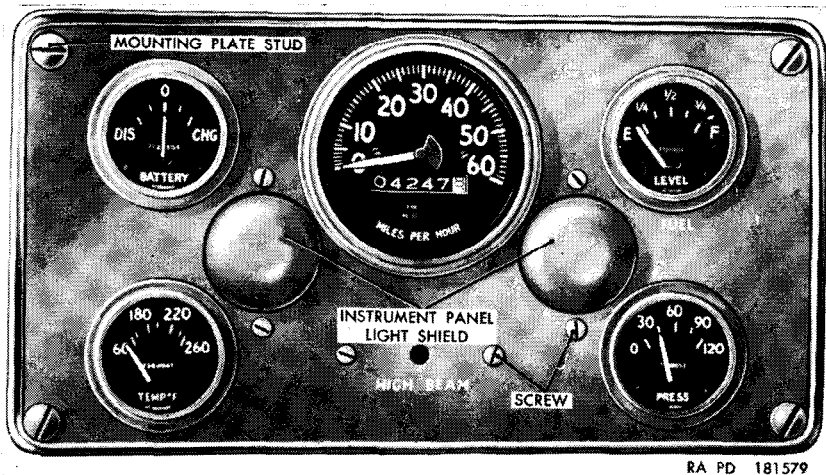

Figure 83. Instrument cluster—front view.
a. Instrument Cluster (fig. 83). The speedometer, ammeter, oil pressure gage, water temperature gage, fuel gage, two instrument panel lights, and headlight high beam indicator light are mounted in the instrument panel mounting plate located in the instrument panel. This assembly is referred to as the instrument cluster. The location and function of the various units in the instrument cluster are described in paragraphs 25, 26, 29, 30, 31, 39, and 40.
a. *Removal.* Disconnect the ground cable (par. 155c(2)). Turn each of the four instrument cluster mounting plate studs (fig. 83) one-half turn counterclockwise and pull instrument cluster free from instrument panel. Unscrew the nut securing the speedometer flexible shaft assembly to the speedometer and pull shaft free from speedometer. Disconnect cable No. 27, at connector (T), from the instrument cluster circuit breaker-to-gages wiring harness (AA). Disconnect cable No. 17 at connector (U). Disconnect cable No. 40 at double connector (R). Disconnect cable Nos. 8 and 9 from ammeter at terminals (H and L). Disconnect cable No. 33 from water temperature gage at terminal (M). Disconnect cable No. 36 from oil pressure gage at terminal (W). Disconnect
b. Installation. Position instrument cluster at instrument panel so that cables may be connected. Connect cable No. 36 to oil pressure gage at terminal (W), and cable No. 33 to water temperature gage at terminal (M). Connect cable No. 28 to fuel gage at terminal (A). Connect cable No. 8 to terminal (H) and cable No. 9 to terminal (L) of ammeter. Connect cable No. 40 to double connector (R). Connect cable No. 17 to connector (U). Connect cable No. 27 to connector (T). Position speedometer flexible shaft assembly in speedometer and tighten nut securing shaft to speedometer. Install instrument cluster in instrument panel and secure in position by turning the four instrument cluster mounting plate studs (fig. 83) one-half turn clockwise. Connect the ground cable (par. 155d(4)).
a. Removal. Disconnect ground cable (par. 155c(2)). Turn the four instrument cluster mounting plate studs (fig. 83) one-half turn counterclockwise and pull instrument cluster free from instrument panel. Disconnect cable Nos. 8 and 9 from terminals (H and L). Remove the two nuts and lockwashers (K) securing the ammeter and ammeter mounting bracket (J) to the instrument panel mounting plate (E) and remove ammeter and bracket.
b. Installation. Position ammeter on the instrument panel mounting plate (E) and rotate ammeter until it engages the locating slot in the plate. Position ammeter mounting bracket (J) over the ammeter and secure ammeter and bracket to plate with two No. 8 lockwashers and nuts (K). Connect cable No. 8 to terminal (H) and cable No. 9 to terminal (L). Position the instrument cluster on the instrument panel and turn the four instrument cluster mounting plate studs (fig. 83) one-half turn clockwise. Connect ground cable (par. 155d(4)).
a. Removal. Turn the four instrument cluster mounting plate studs (fig. 83) one-half turn counterclockwise and pull the instrument cluster free from instrument panel. Unscrew the nut securing the speedometer flexible shaft assembly to the speedometer and pull shaft free from speedometer. Remove the nut (CC), lockwasher, and plain washer securing the instrument cluster circuit breaker-to-gages wiring harness (AA) to the wiring harness mounting stud (BB) and detach harness from the stud. Remove the plain washer, stud, and lockwasher from the speedometer mounting stud. Remove the nut and lockwasher (G) from the remaining speedometer mounting stud and remove speedometer
a. Removal. Disconnect the ground cable (par. 155c(2)). Turn the four instrument cluster mounting plate studs (fig. 83) one-half turn counterclockwise and pull instrument cluster free from instrument panel. Disconnect cable No. 17 at connector (U). Remove the two screws and lockwashers securing the headlight high beam indicator light and cover to the instrument panel mounting plate (E) and remove indicator light (S).
c. Lamp Replacement. Disconnect the ground cable (par. 155c(2)). Turn the four instrument cluster mounting plate studs (fig. 83) one-half turn counterclockwise and pull instrument cluster free from instrument panel. Turn the cover of the headlight high beam indicator light (S) counterclockwise and pull cover out of light body. Press in and turn lamp counterclockwise to disengage it from lamp socket. Install new lamp by pressing it into lamp socket and rotating clockwise. Position indicator
light cover on light body, press in and turn cover clockwise to engage with light body. Position instrument cluster on instrument panel and turn the four instrument cluster mounting plate studs (fig. 83) one-half turn clockwise. Connect the ground cable (par. 155d(4)).
a. Removal. Disconnect the ground cable (par. 155c(2)). Turn the four instrument cluster mounting plate studs (fig. 83) one-half turn counterclockwise, and pull instrument cluster free from instrument panel. The two instrument panel lights with cables are permanently connected together in connector (R) and must be replaced as one unit. Disconnect cable No. 40 at connector (R). Remove the four screws and lockwashers securing the instrument panel lights to the instrument panel mounting plate (E) and remove lights (Z) and light shields (fig. 83).
b. Installation. Position the light shields in the instrument panel mounting plate (E). Position the two instrument panel lights on the plate and secure each with two No. 8 x $\frac{5}{16}$ screws and lockwashers. Connect cable No. 40 to connector (R). Position instrument cluster on instrument panel and turn the four instrument cluster mounting plate studs (fig. 83) one-half turn clockwise. Connect the ground cable (par. 155d(4)).
c. Lamp Replacement. Disconnect the ground cable (par. 155c(2)). Turn the four instrument cluster mounting plate studs (fig. 83) one-half turn counterclockwise and pull instrument cluster free from instrument panel. Press in on the cover of the instrument panel light (Z), turn counterclockwise and pull cover out of light body. Press in and turn lamp counterclockwise to disengage it from lamp socket and remove lamp. Install new lamp by pressing lamp into socket and turning clockwise. Install instrument panel light cover by pressing in and turning clockwise in lamp body. Position instrument cluster on instrument panel and turn the four instrument cluster mounting plate studs (fig. 83) one-half turn clockwise. Connect the ground cable (par. 155d(4)).